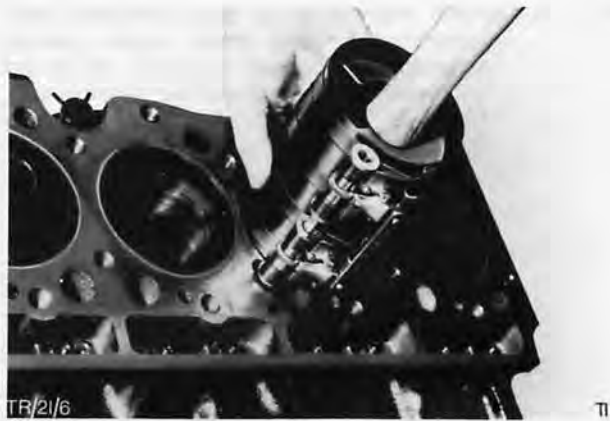

Fig. 70. Fit piston using standard ring compressor
43. Apply engine oil to pistons and cylinder bores. Stagger piston rings with maximum spacing. Compress piston rings with standard ring compressor and press pistons into cylinders using hammer handle, Fig. 70, guiding connecting rods with oiled bearing shells on to big end journals by hand.